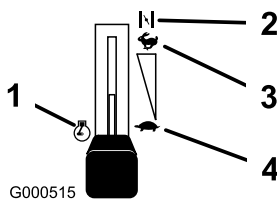

Figure 11
3. Move the throttle lever to Choke before starting a cold engine (Figure 11).
5. After the engine starts, move the throttle lever to Fast (Figure 11). If the engine stalls or hesitates, move the throttle lever back to Choke for a few seconds. Then move the throttle lever to the desired setting. Repeat this as required.
1. Move the throttle lever to Fast (Figure 11).